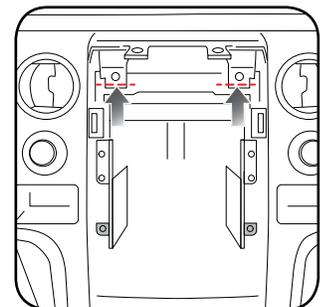

Fig. 1.10
9. Some trimming may be required in order for the top of the aftermarket radio chassis to clear and sit straight in the dash. (Fig. 1.10)